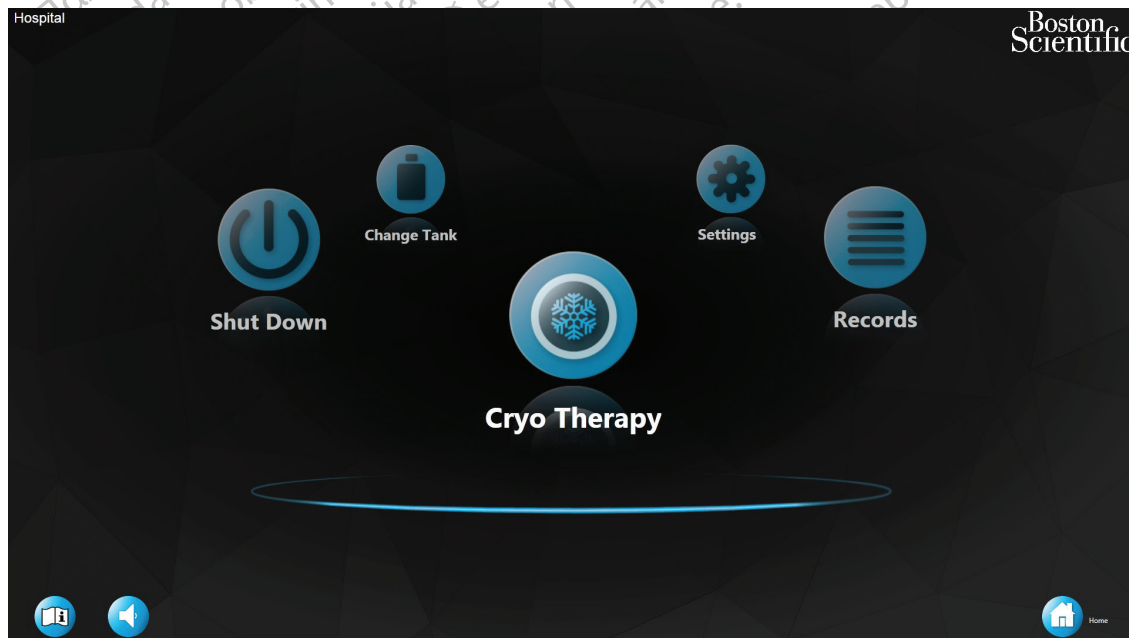

Figure 2. Home screen
4. The home screen will be displayed once the console has completed the boot-up procedure (Figure 2).